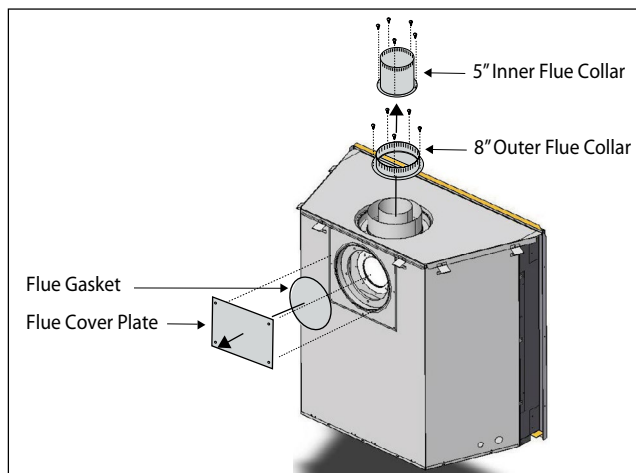

**Figure 8a.** Flue cover and collar installation, **Rear Vented** fireplace.
3. Install the (removed) Rear flue cover and gasket material, to the Top vent outlet. Fasten the cover with included hardware, as illustrated **Figure 8a**.
4. Install the (5" and 8") collars to the rear vent outlet using the included hardware, as illustrated **Figure 8a**.